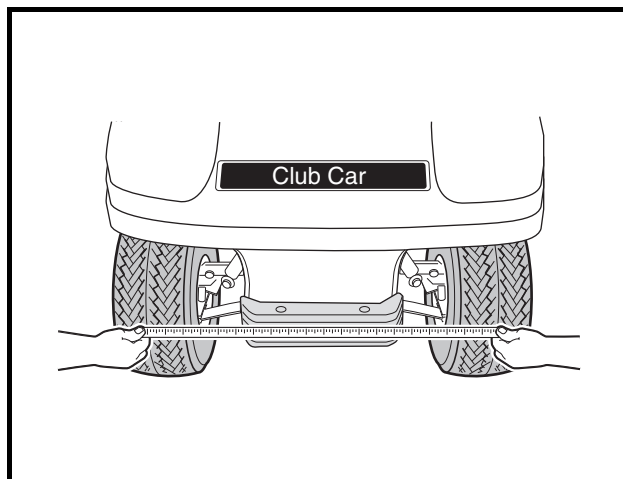

Figure 7-18 Check Toe-In
3. Measure the distance between the marks on the rear-facing surfaces of the tires, and then roll the vehicle **forward** one and one-half wheel revolutions until the marks appear on the forward facing surfaces of the tires at about the same height from the floor (**Figure 7-18, Page 7-17**).